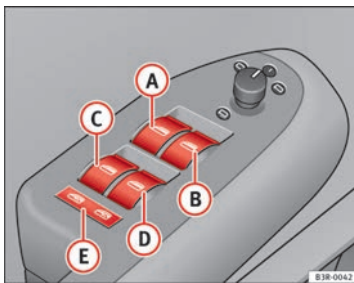

Fig. 79 Detail of the driver door: Controls
-  Switch ⇒ fig. 79 for the driver door window
The safety switch  $\Rightarrow$  fig. 79 **E** can deactivate the rear door switches. The windows can only be operated from the rear when the safety switch is pressed in.